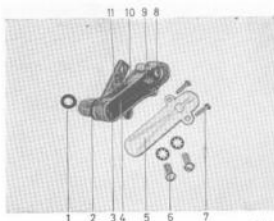

Fig. 2-120. Temperature compensator
3. Should there be a powerful drop in the idling speed during idling for a lengthy period, especially when the weather is warm, check the function of the temperature compensator by removing the plastic cover and pressing in the valve (3, Fig. 2-120). This should move under very light pressure and return to its position without jamming. This applies at a temperature above 85° F. The valve starts opening at 70°—77° F. Pressing the valve inwards deteriorates the quality of the idle. If the valve has a tendency to be stiff in operation or if the compensator is incorrectly adjusted, the latter should be replaced
The temperature compensator is replaced complete. It is removed from the carburetor by unscrewing the screws (6, Fig. 2-120). Take out the old seal (1) from the carburetor and fit a new one. Place a new seal (2) on the temperature compensator and fit the compensator.
NOTE. The temperature compensator is marked "120°" for the B 20 A engine and "60°" for the B 20 B engine (see 11, Fig. 2-120).